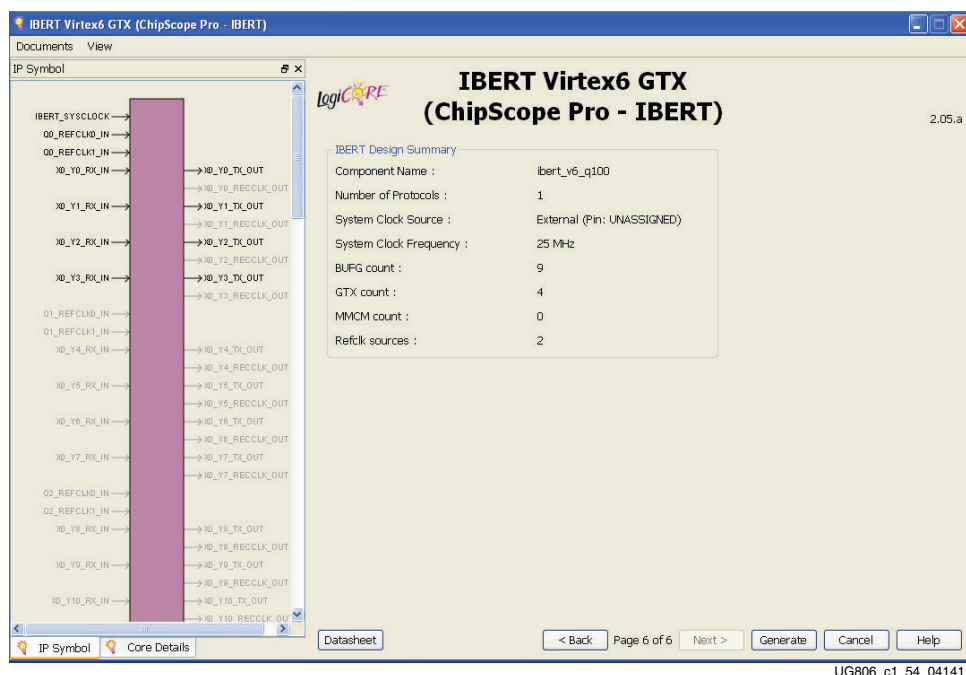

Figure 1-54: CORE Generator - IBERT GTX Customization - Page 6
14. Verify the information shown in Figure 1-54, then click **Generate**.